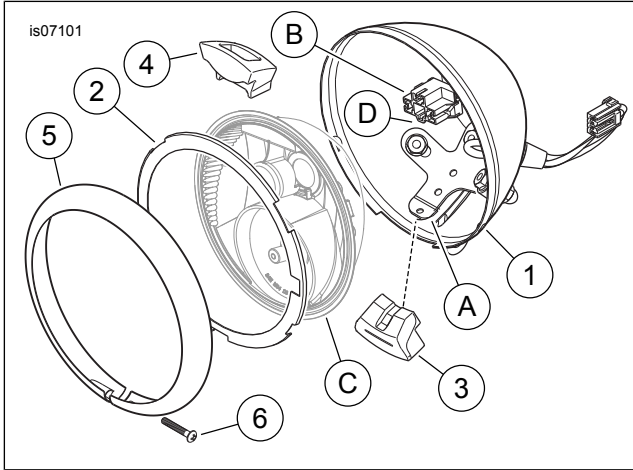

Figure 1. Service Parts, 5-3/4 Inch Headlamp Housing
See Figure 1 and Table 1.
5. See Figure 1. Install the bumpers (3 and 4) from the kit onto the leading edge (A) of the mounting bracket inside the **new** black headlamp housing (1) as shown.
6. Position the retainer ring (2) into the front face of the headlamp housing in the orientation shown, and press firmly into place.